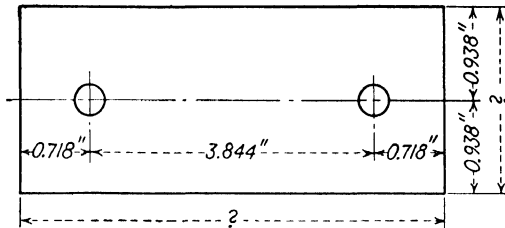

Fig. 42.
4. As a mechanic you are to work from the drawing in Fig. 42, but all you have is a steel rule graduated in 64ths. Convert all dimensions to fractions accurate to the nearest 64th.
5. Find the over-all dimensions in Fig. 42 (a) in decimals; (b) in fractions.